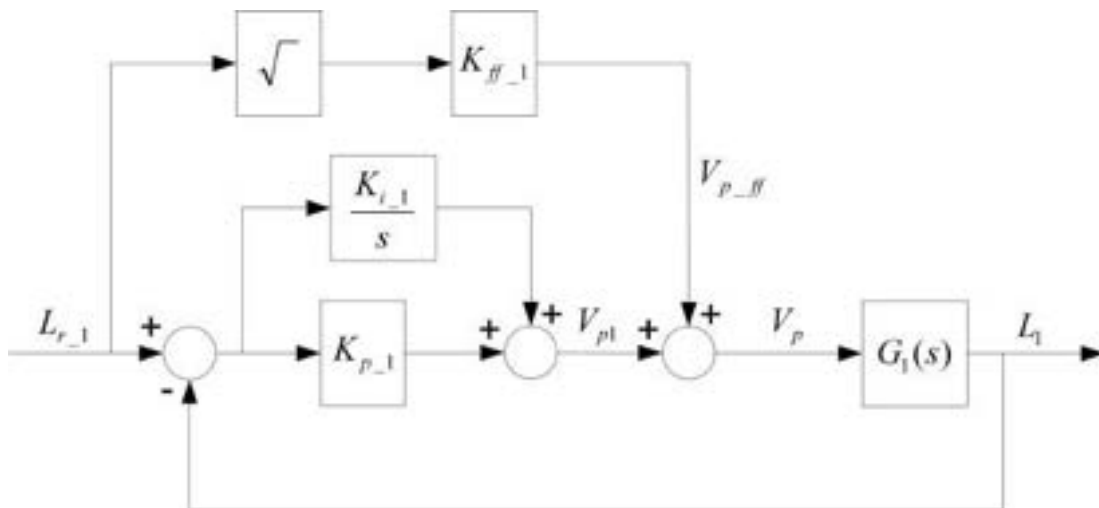

Figure 3.1: Tank 1 Water Level PI-plus-Feedforward Control Loop.
For zero steady-state error, tank 1 water level is controlled by means of a Proportional-plus-Integral (PI) closed-loop scheme with the addition of a feedforward action, as illustrated in Figure 3.1, below, the voltage feedforward action is characterized by:
As it can be seen in Figure 3.1, the feedforward action is necessary since the PI control system is designed to compensate for small variations (a.k.a. disturbances) from the linearized operating point (V_{p0}, L_{10}). In other words, while the feedforward action compensates for the water withdrawal (due to gravity) through tank 1 bottom outlet orifice, the PI controller compensates for dynamic disturbances.
2. **A-1, A-2** Using tank 1 voltage-to-level transfer function $G_1(s)$ determined in Section 2.2 and the control scheme block diagram illustrated in Figure 3.1, derive the normalized characteristic equation of the water level closed-loop system.